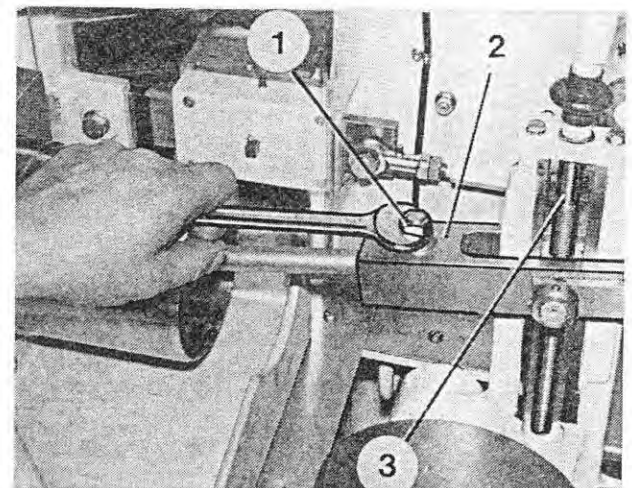

Fig. 202
7. Use the handwheel to crank the machine until the dosing lever (Figure 202/3) has reached its rear position.
8. Unscrew the hex nut (Figure 202/1) which retains the piston rod. Push the piston rod out of the slide piece (Figure 202/2).